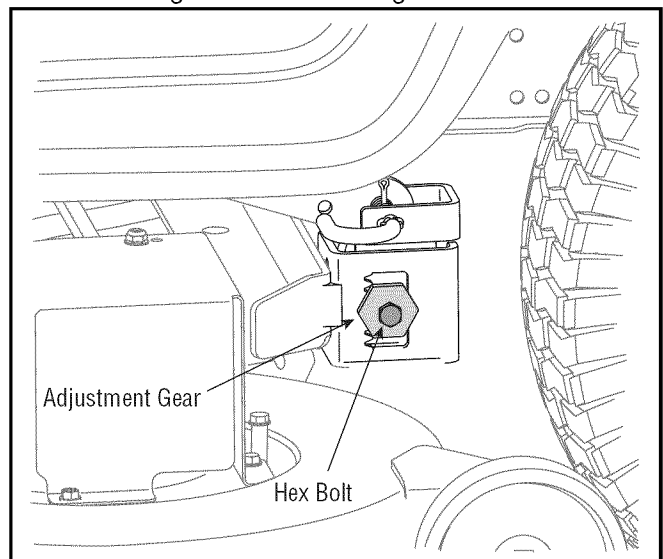

Figure 11
- Loosen, but do NOT remove, the hex bolt on the left deck hanger bracket. See Figure 11.
- Raise and lower the left side of the deck by using a wrench to turn the adjustment gear. See Figure 11.